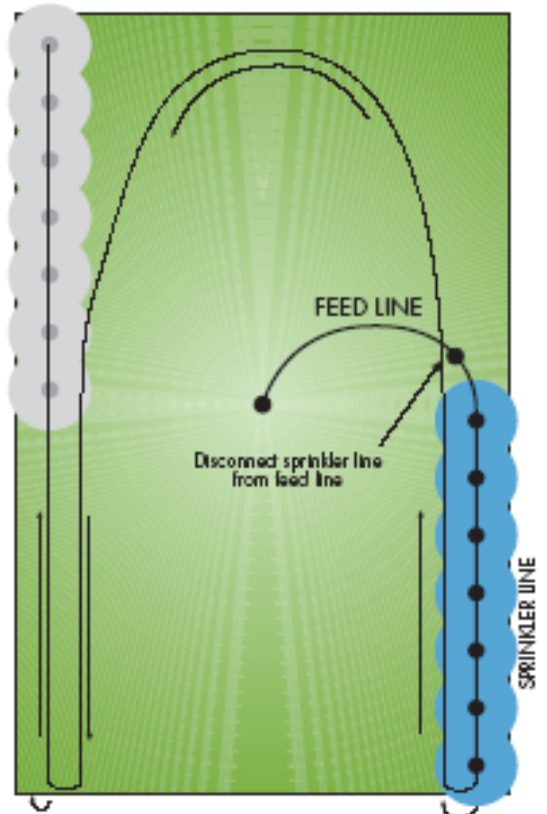

FIG 3
When the field has been irrigated completely (point (C)), disconnect the sprinkler line from the feed line, tow the sprinkler line back to the starting position (FIG 3), reposition feed line, connect to the sprinkler line and you're ready to start the irrigation rotation again.
The feed lines (FIG 3) connect to the isolation valve at the riser, and are customized depending on the size and shape of the field. The sprinkler lines are also customized for the field, using 40mm and 32mm special K-Line Irrigation low density poly pipe. The K-Line Irrigation pods are then fitted using the quick attaching saddle.